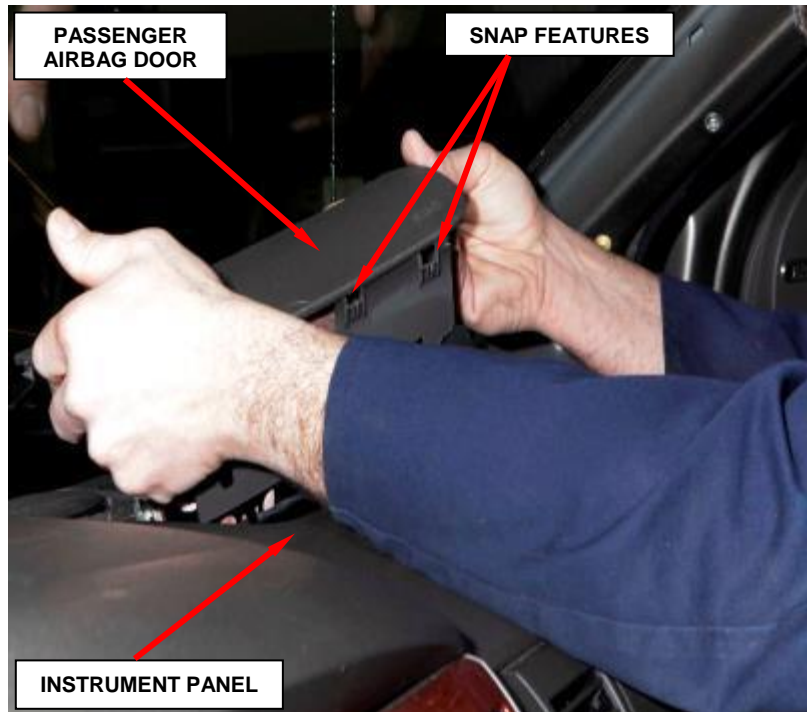

Figure 19 – Passenger Airbag Door
5. Using a trim stick or another suitable wide flat bladed tool, gently pry the forward and side edges of the passenger airbag door away from the top of the instrument panel far enough to disengage the snap features on the airbag door from the receptacles in the instrument panel top pad (Figure 19).